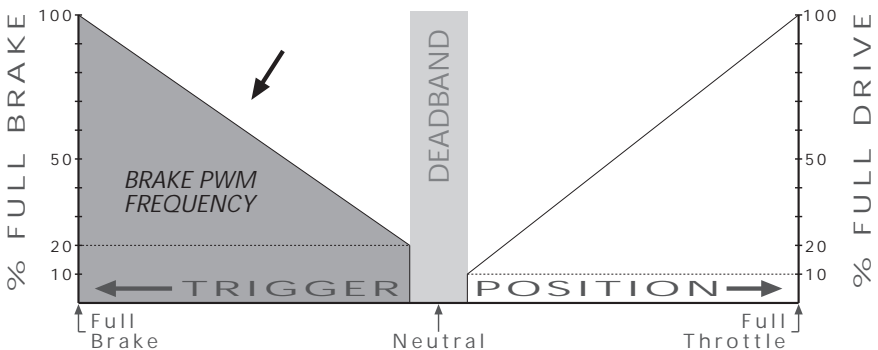

Figure 5: Graphical location of area affected by Brake PWM Frequency.
- Brake PWM Frequency controls deceleration characteristics of your vehicle with respect to trigger movement in the Full Brake direction (Figure 5). Changing Brake PWM Frequency allows you to change the manner in which the vehicle responds to brake trigger input.